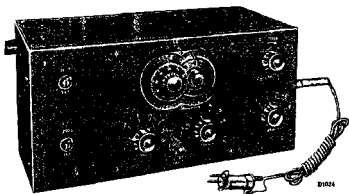

Fig. 1.
1. A service oscillator having wave bands covering the receiver, similar to Philips' Service Signal Generator G.M. 2880 (see fig. 1). Prices and particulars upon application from the Service Dept.